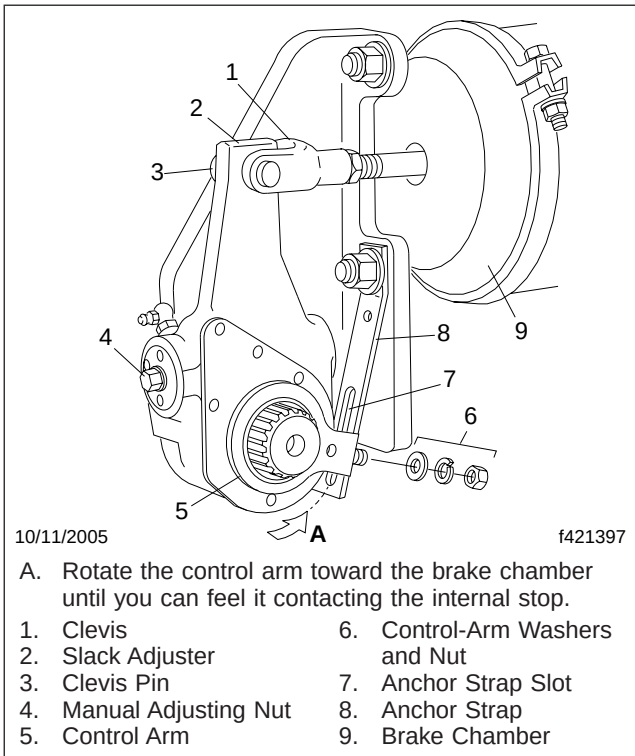

Fig. 11.14, Haldex Automatic Slack Adjuster
- 23.3 *Haldex Slack Adjusters:* Inspect each slack adjuster and anchor strap for damage. See Fig. 11.14. Have any damaged components replaced.